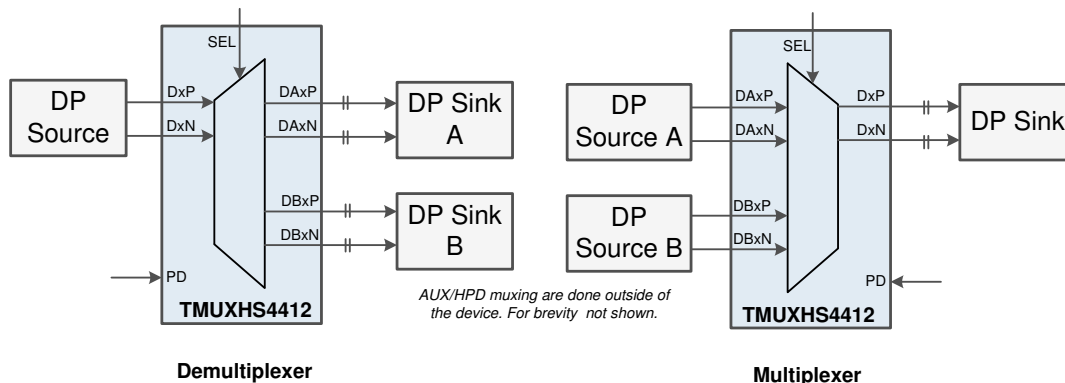

图 7-9. DisplayPort Main Link Demuxing/Muxing
图 7-9 shows an application block diagram to implement DisplayPort (DP) main link switch either in mux or demux configuration. Note DP link also has sideband signals such as Auxiliary (AUX) and Hot Plug Detect (HPD) which must be switched outside of this device.